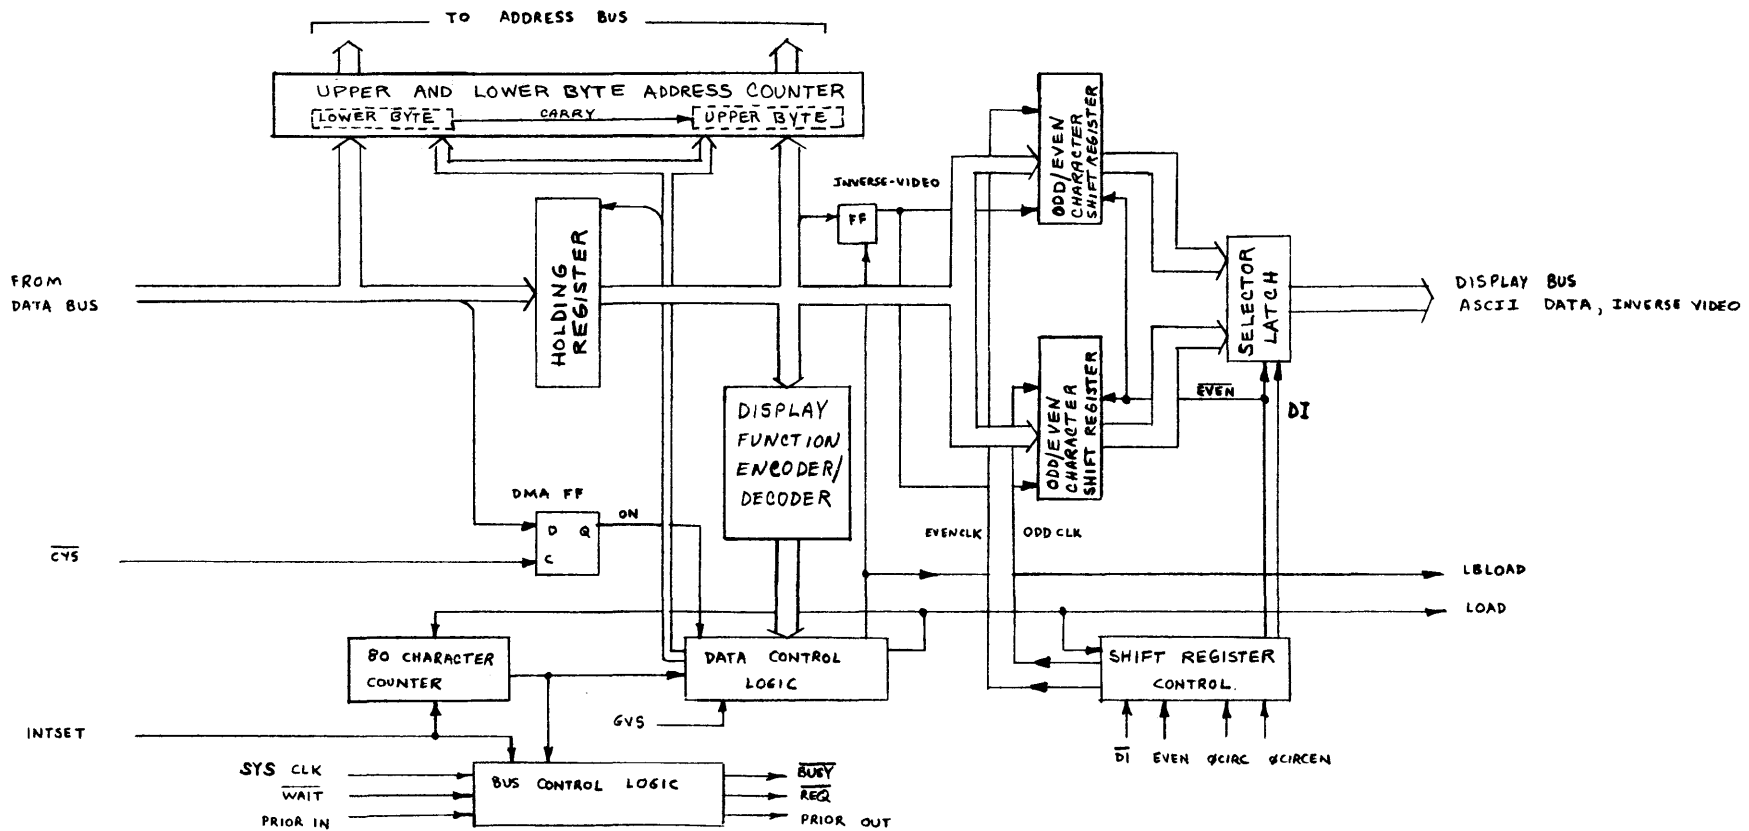
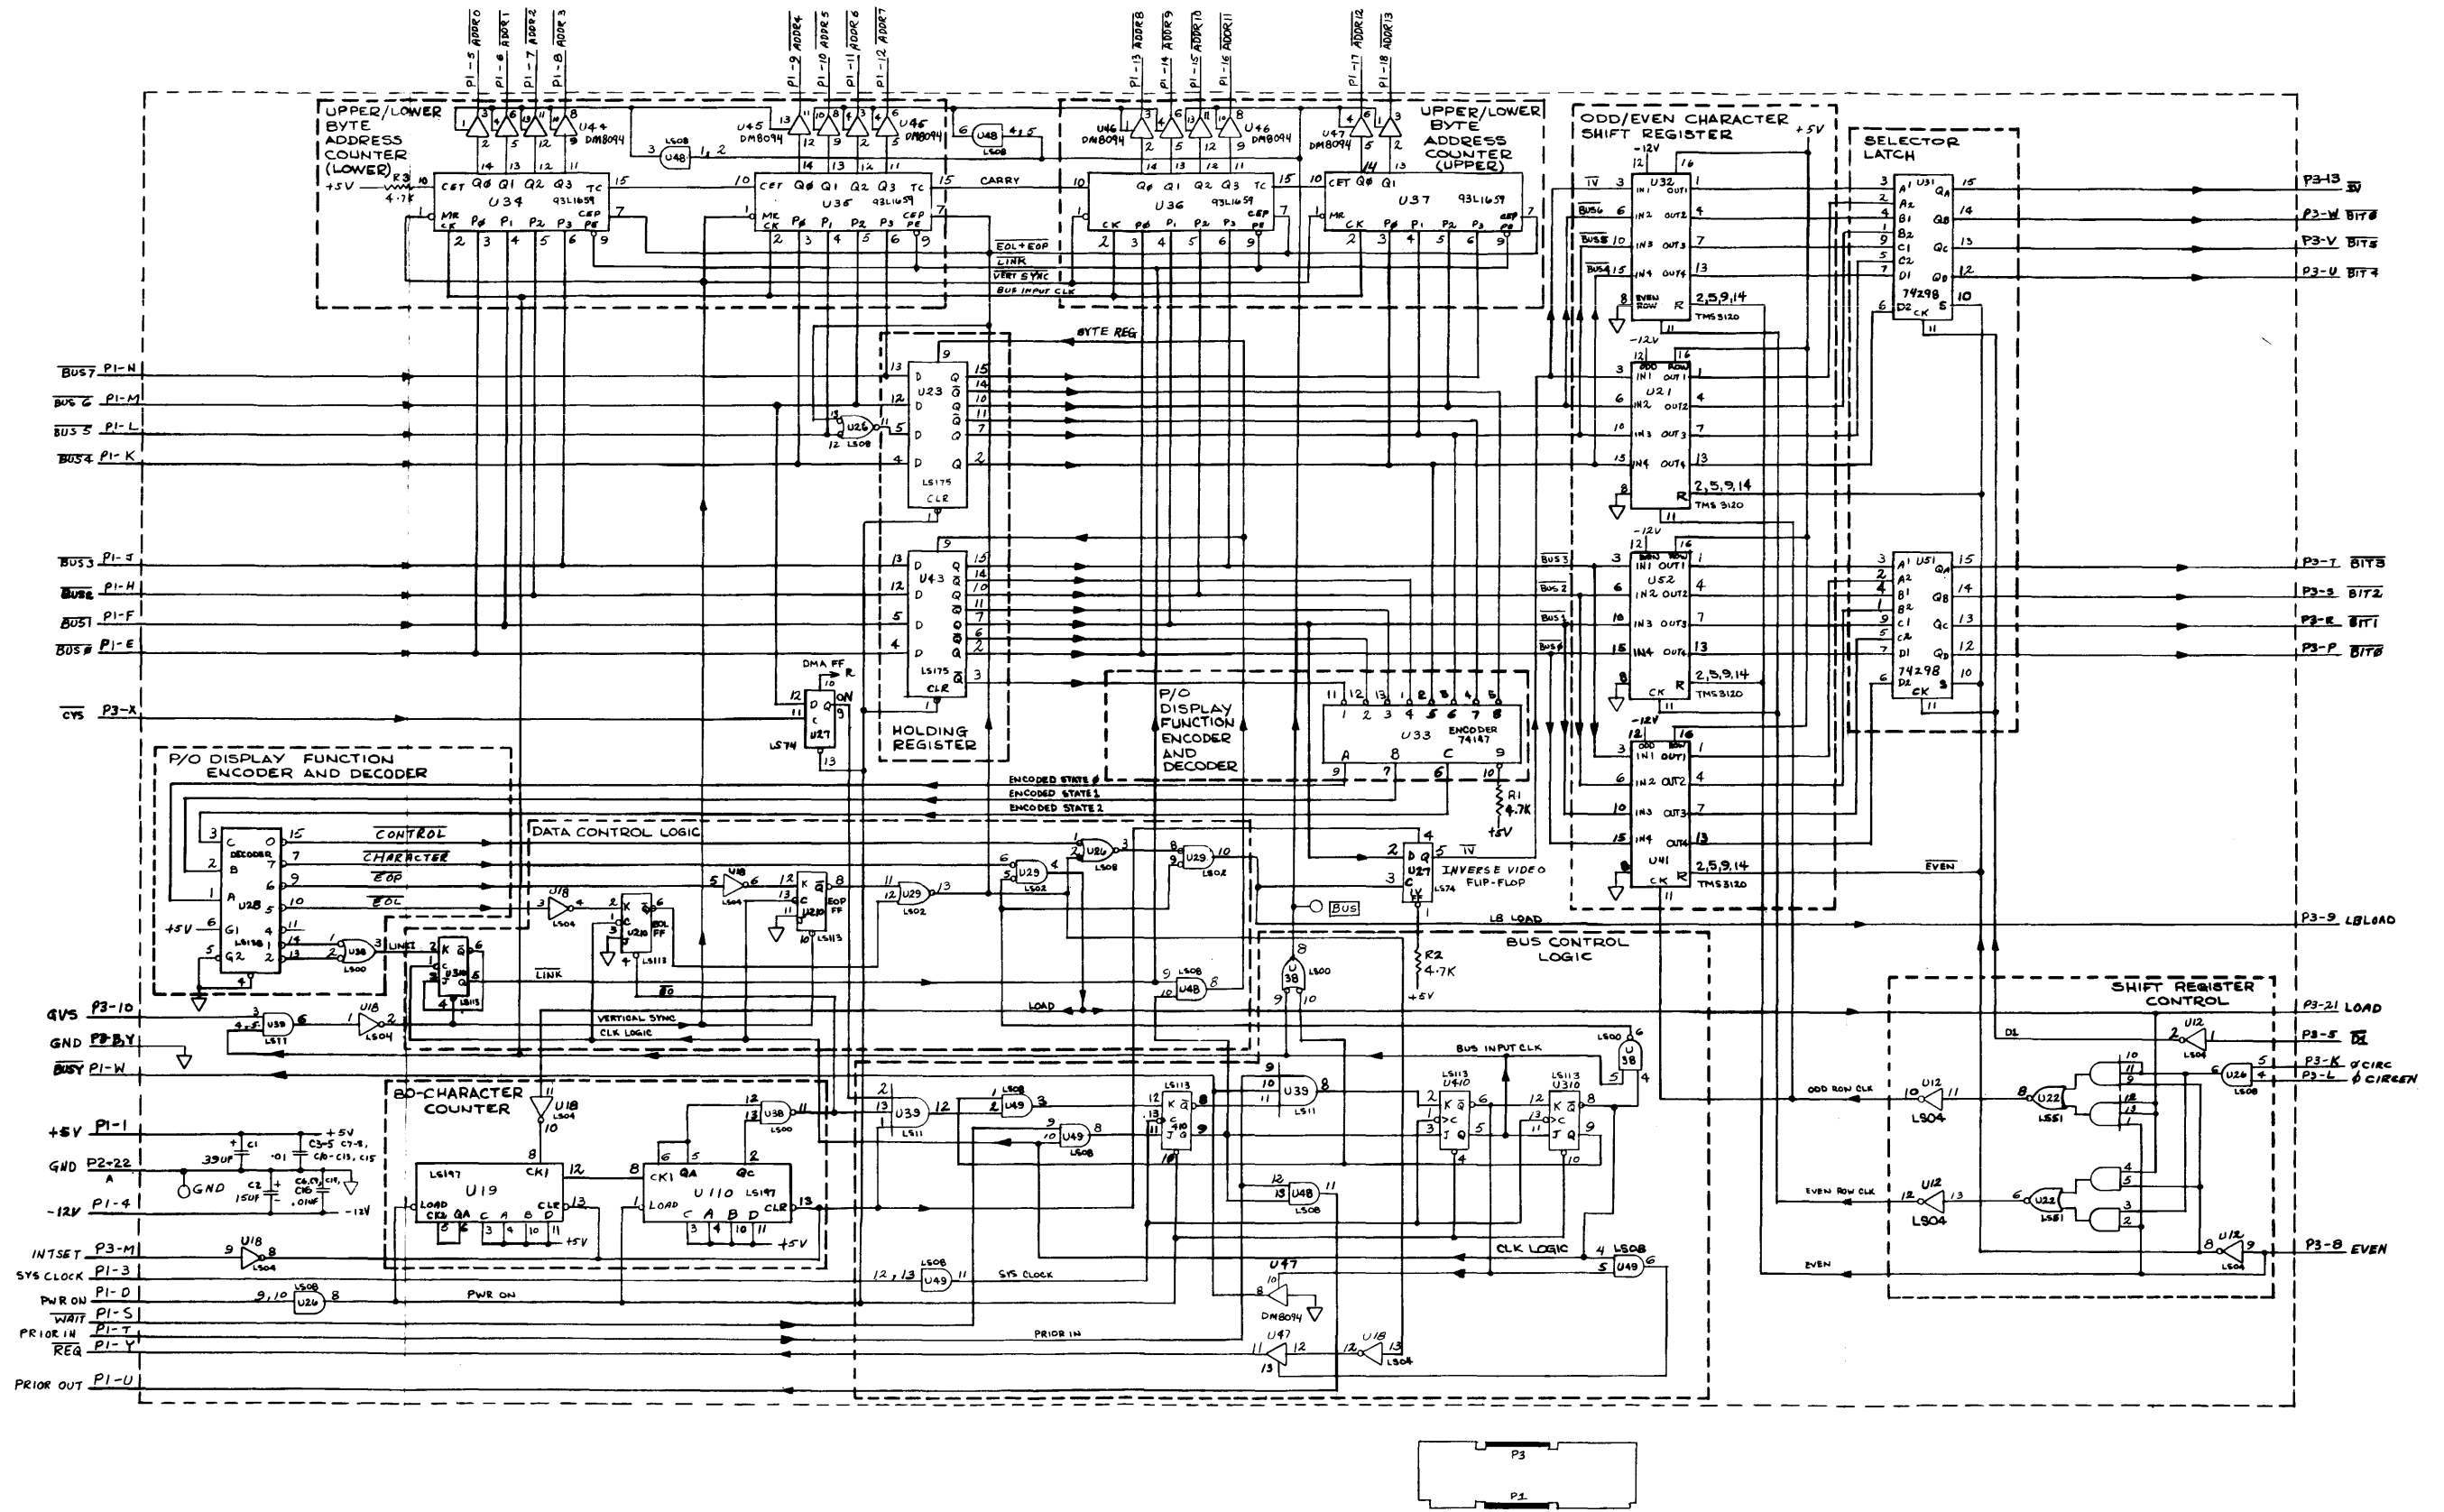

Figure 10
Figure 11
- 4.0 FUNCTIONAL DESCRIPTION - DMA PCA. Refer to the DMA PCA block diagram (figure 10), schematic diagram (figure 11), timing diagrams (figures 12 through 14), DMA data encoding (figure 15), component location diagram (figure 16), and parts list (02640-60009) located in the appendix.